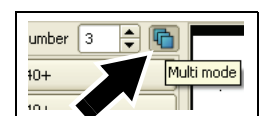

Figure 11: Multi-mode active
6. See Figure 11. **Multi-mode** is active by default. In this mode, you simply click on the canvas each time you want to position another panel of the type you selected (if you de-activate **Multi-mode**, you must click on the desired panel type in the **Fixture Library** each time you want to add a panel to your on-screen installation).